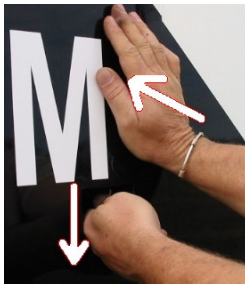

Fig. 4
4. Pull down on the key (fig. 4.)